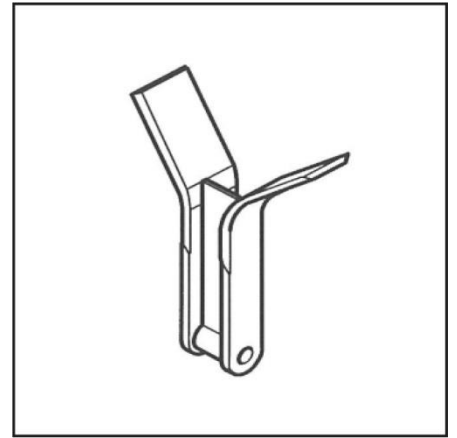

Figure 7.11
- Double with Blade (Figure 7.11);